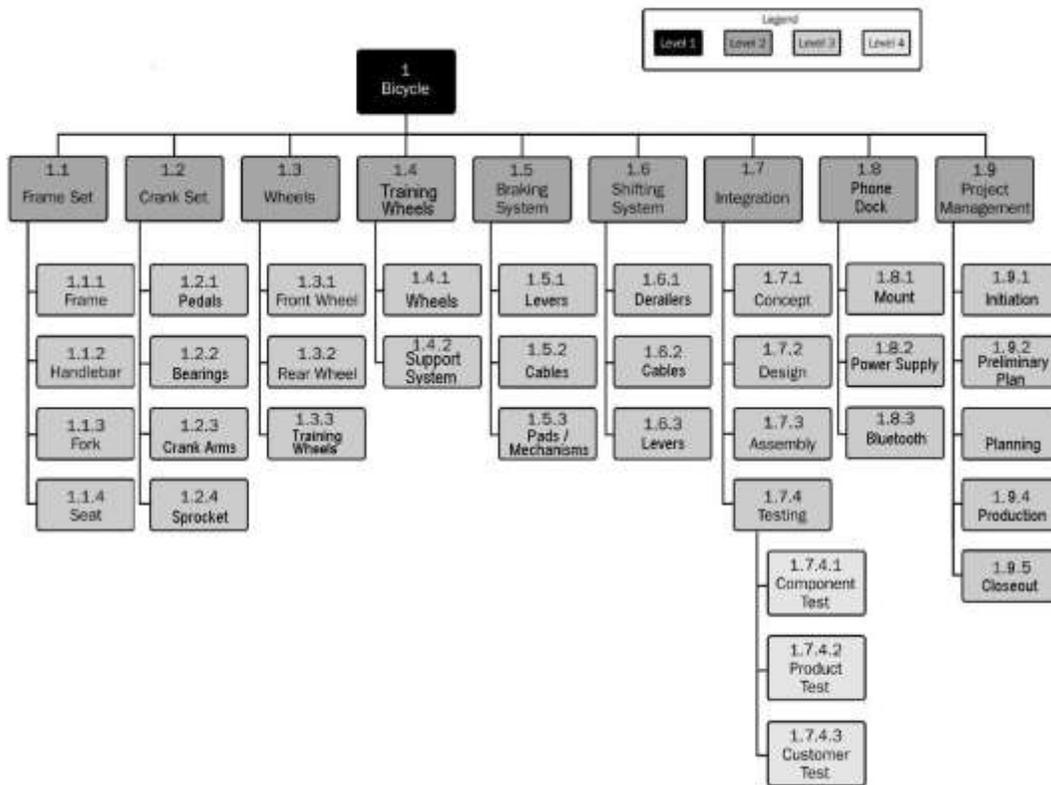

Figure 1: Group 4 Bicycle WBS Week 5
The bicycle project consists of (9) different Work Breakdown Structures (WBS). *Figure 1* represents the existing WBS with the addition of the training wheels task introduced this week.